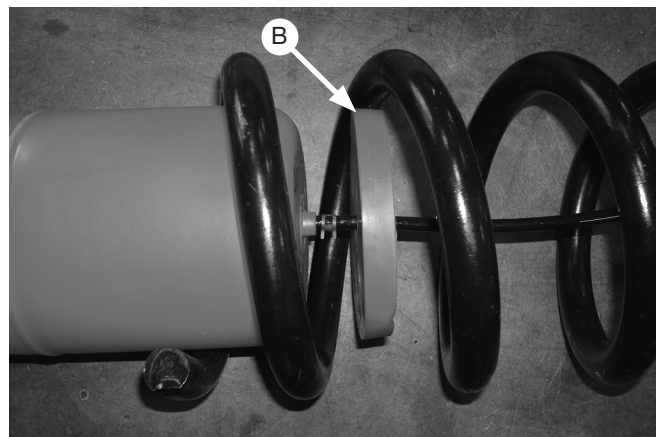

Fig. 6
3. Insert the cylinders into the coil springs, so when the spring is reinstalled, the air line is pointing downward. Insert the air lines through the middle hole of the lower protectors (B) (Fig. 6).